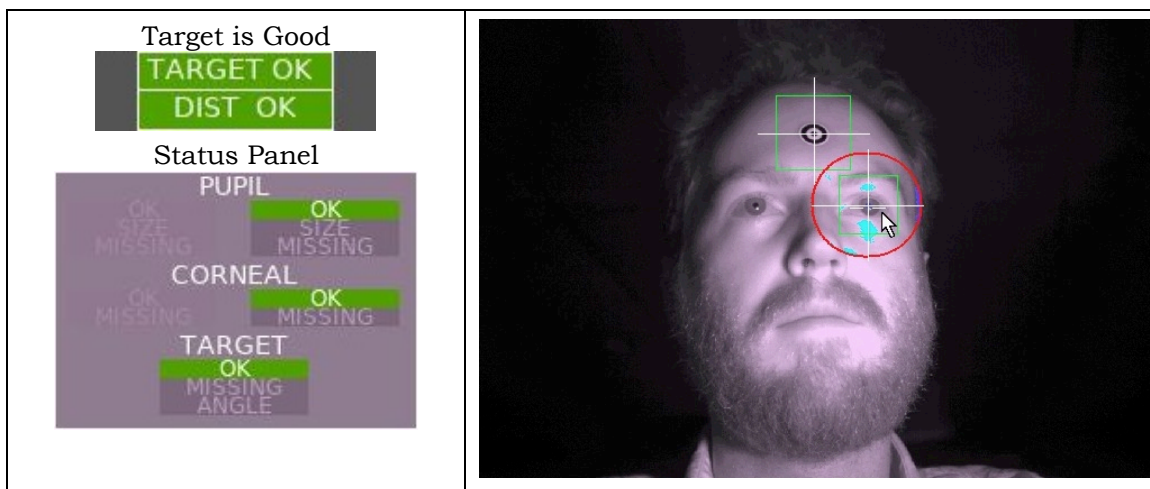

Figure 3-7: EyeLink Remote Target Placement
- 7) Place a target sticker on the participant's forehead (see Figure 3-7). This small target sticker allows tracking of head position even when the pupil image is lost (i.e., during blinks or sudden movements). Ideally, it should be just above the eyebrow of the tracked eye or on the forehead between the two eyes. If the target sticker is placed too much towards the temporal side of the forehead (see bottom panel of Figure 3-7), the tracker may report an ANGLE error in the status panel when the participant rotates the head in the direction of the sticker.